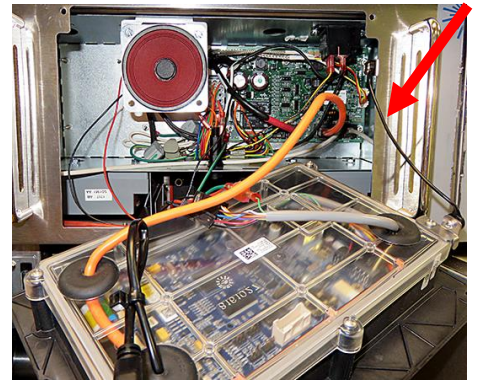

Figure 6
8. Lower the controller and rest it on the bottom of the control box (see Figure 6). The black tether on the right will support the controller.
9. Disconnect the RJ45 cable from the SIB board **FIRST** (see Figures 6 and 7).